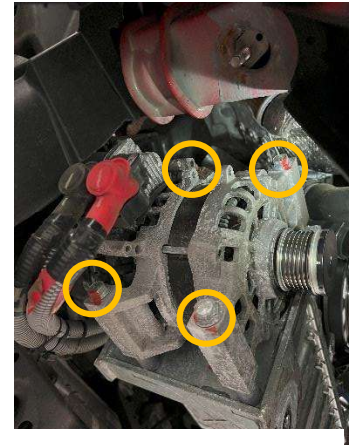

Figure 9
23. Remove alternator mounting bolts x4 using a 15mm socket to remove the alternator. See figure 9. **Note:** there are multiple spacers between the alternator and the mount. Be sure to discard the alternator, spacers and mounting hardware.